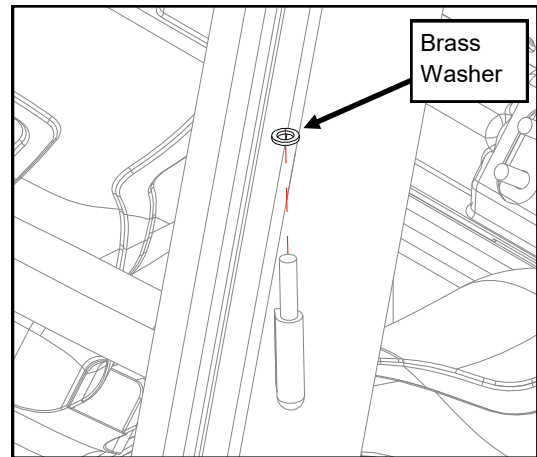
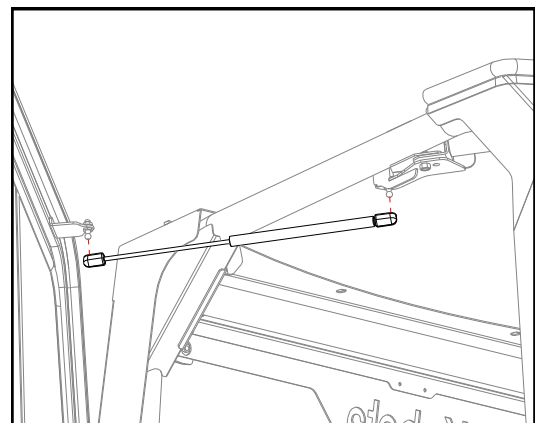

Fig. 16
Fig. 23
16. Install (4) provided brass washers onto the weld-on hinge pins on the windshield frame and lower hinge mounts. (see fig. 16)
18. Holding the door perpendicular to the vehicle, lower the door hinge sleeves over hinge pins on vehicle. (see fig. 16) Note: If the hinge sleeves don't line up with the hinge pins, loosen factory installed door hinges until fasteners are finger tight, then repeat this step, aligning the sleeves to the pins, as necessary.
20. Gently close the door, lifting on the door handle if necessary, to allow the latch to lock around the striker pin. Ensure that you have heard (2) clicks of the door latch. Use a long straight edge to ensure that the hinges are in-line with each other.
21. With an assistant sitting inside the vehicle, tighten the (4) 1/4-20 hinge screws and nuts, if loosened in step 18. Note: See Door Troubleshooting section on last page for information about adjusting the door latches and hinges.
23. Install gas shock onto ball studs with rod end towards the door. (see fig. 23)